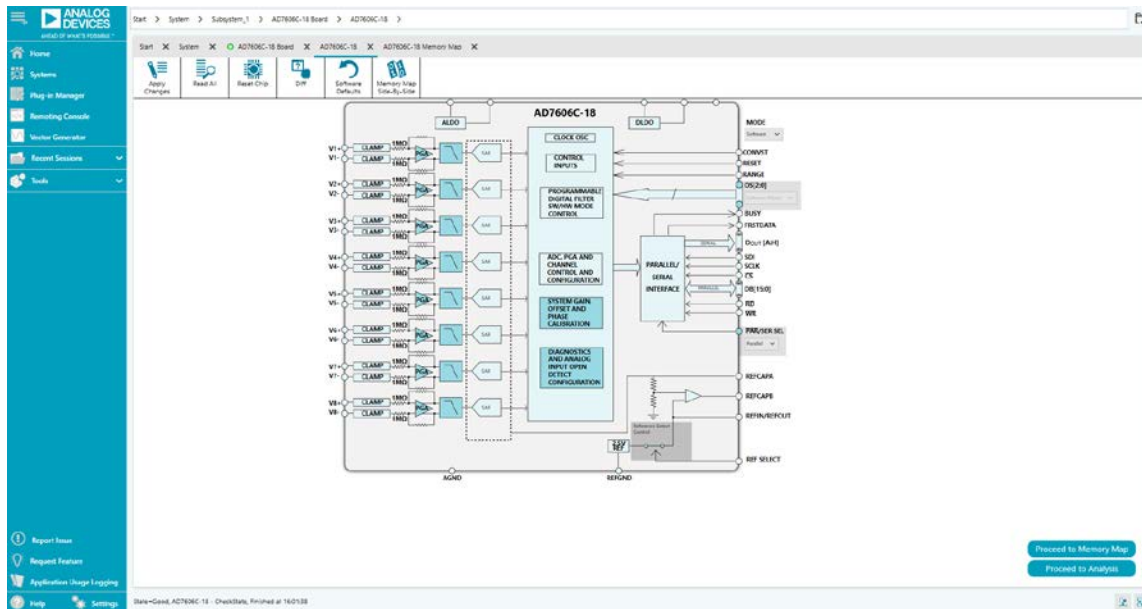
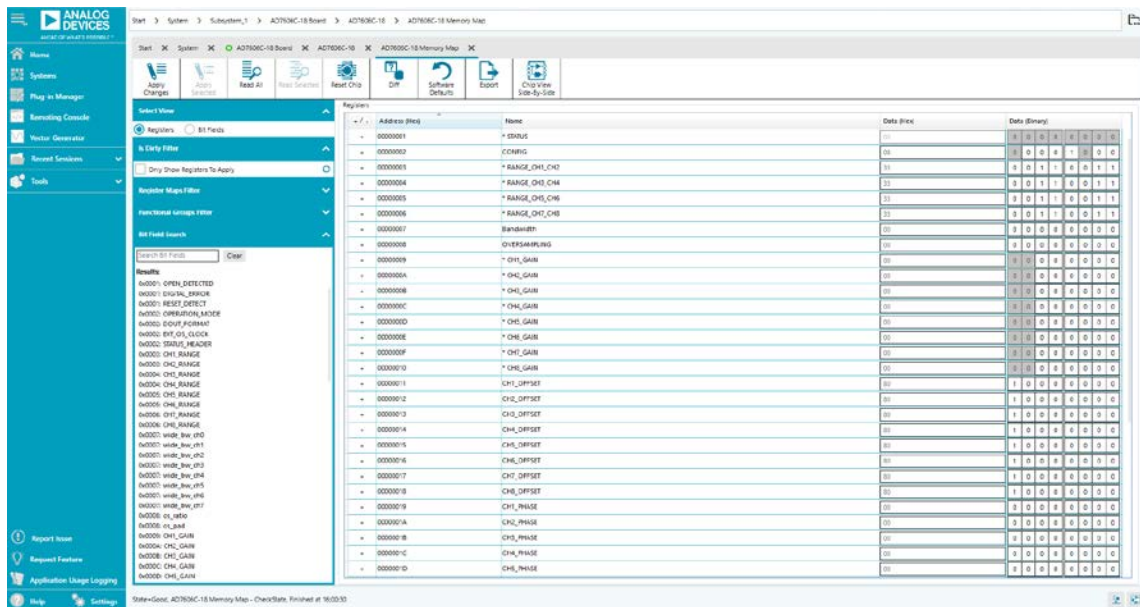
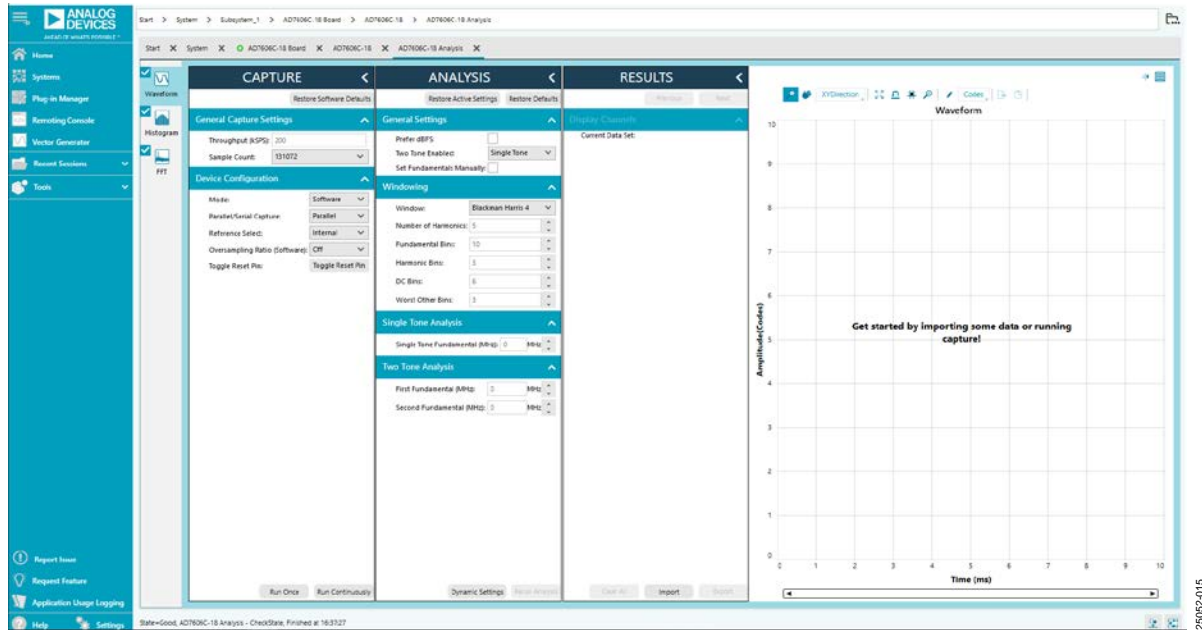

Figure 12. AD7606C-18 Chip View Window
Figure 14. AD7606C-18 Memory Map View Window
Figure 15. AD7606C-18 Analysis View Window
4. Double click the **AD7606C-18** chip icon in the **AD7606C-18 Board** view window to open the **AD7606C-18** chip view window shown in Figure 12.
Click **Proceed to Memory Map** in the AD7606C-18 chip view window (see Figure 12) to open the **AD7606C-18 Memory Map** view window shown in Figure 14. The **AD7606C-18 Memory Map** view window shows all registers of the **AD7606C-18**.
Click **Proceed to Analysis** in the AD7606C-18 chip view window (see Figure 12) to open the AD7606C-18 Analysis view window shown in Figure 15. The analysis view window contains the **Waveform** tab, **Histogram** tab, and **FFT** tab.